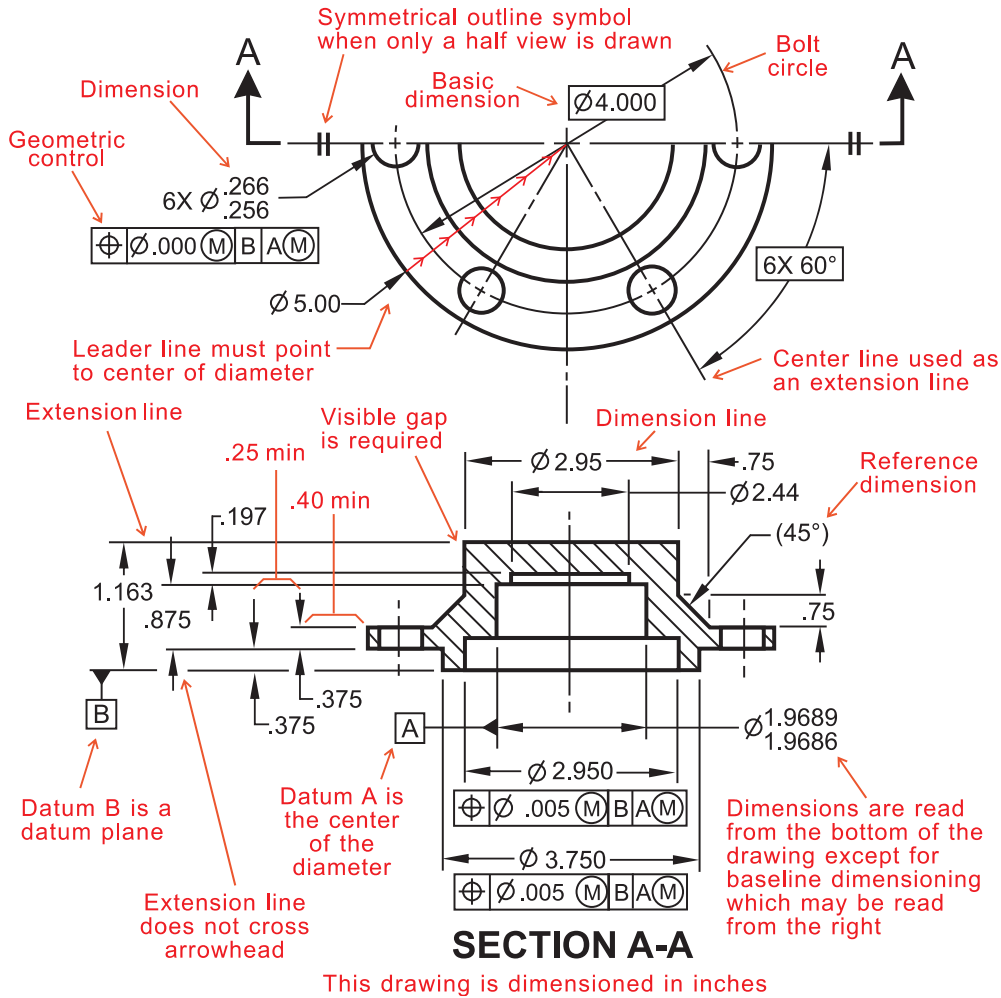

Figure 4
4.3 Illustrated Dimensioning Guidelines and Rules- See Figure 4.